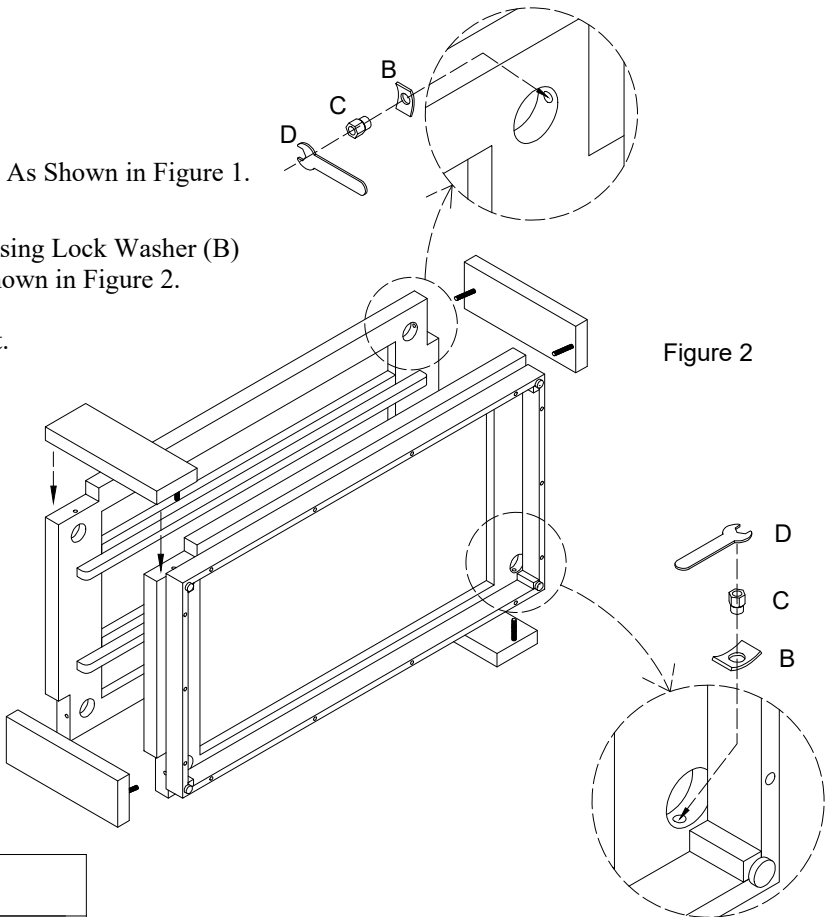

Figure 2
3. Attach legs to the top frame and bottom board using Lock Washer (B) Nut (C) and tighten with the Wrench (D). As Shown in Figure 2.